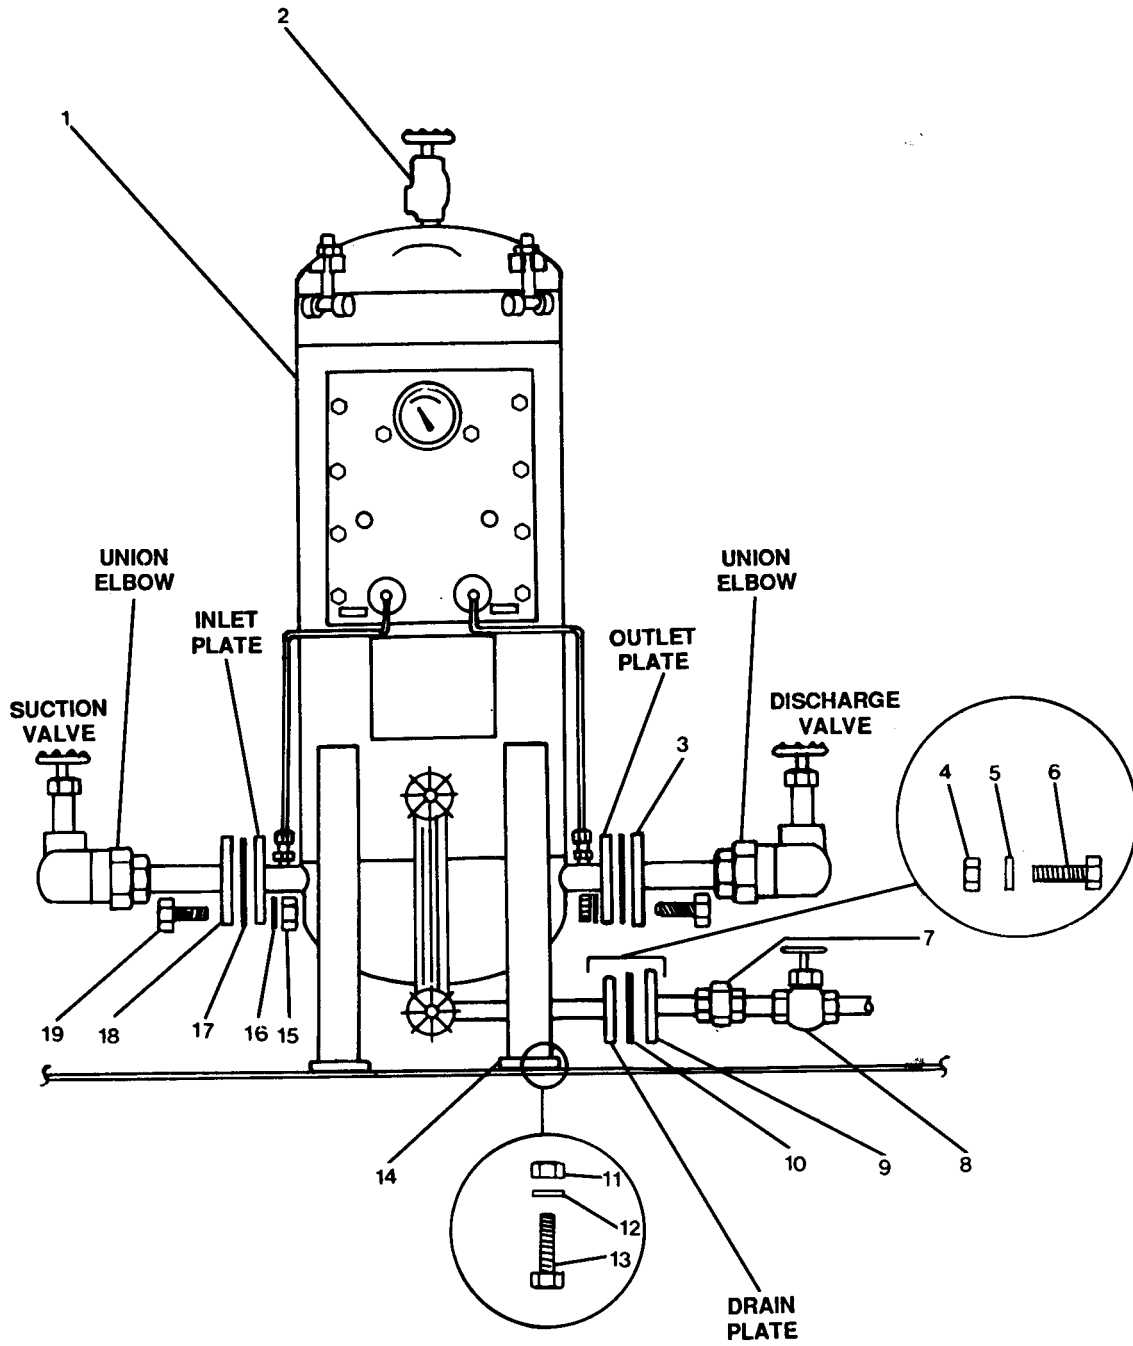

FIGURE 3-15. Diesel Fuel Oil Filter/Separator.
- d. Remove four screws (6).
- e. Separate and position cover (5) and thermostat control leads (7) clear of opening to junction box (4).
- g. Connect fittings (3) on junction box.
- j. Install four screws (6) and secure cover to junction box (4).
**3-20. Replace Diesel Fuel Oil Filter/Separator. (Figure 3-15)**